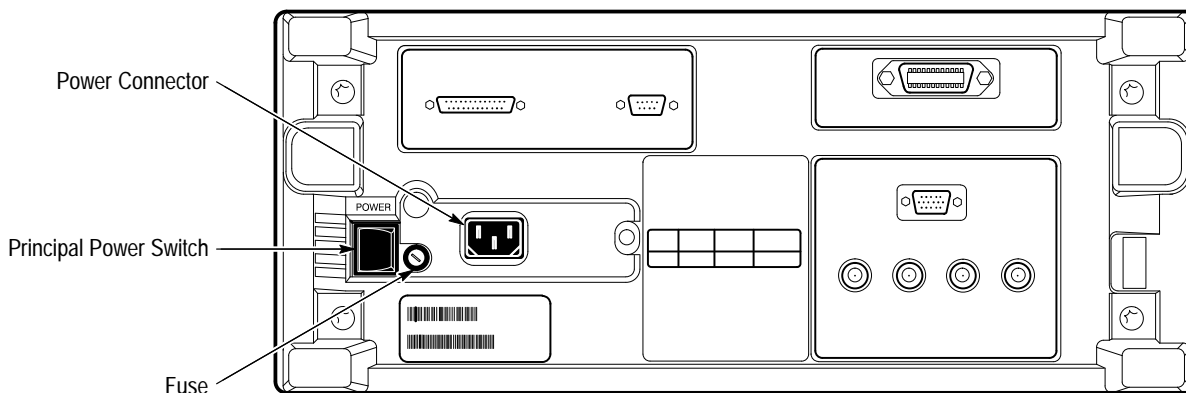

Figure 1–1: Rear Panel Controls Used in Start Up
3. Check the fuse to be sure it is the proper type and rating (see Figure 1–1). You can use either of two fuses. Each fuse requires its own cap (see Table 1–2). The oscilloscope is shipped with the UL approved fuse installed.
5. Connect the proper power cord from the rear-panel power connector (see Figure 1–1) to the power system.